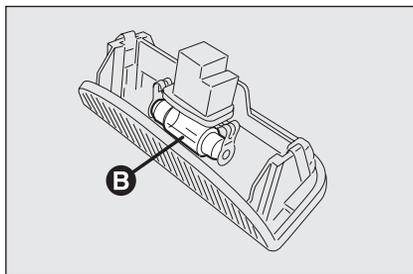

fig. 41
- replace the bulb **B-fig. 41** releasing it from the side contacts making sure that the new bulb is correctly clamped between the contacts;